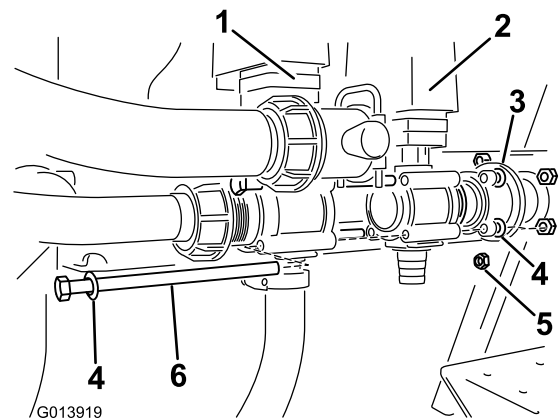

Figure 5
7. Located the eductor valve in loose parts. Install the valve in line, to the right of the agitation valve (Figure 5).